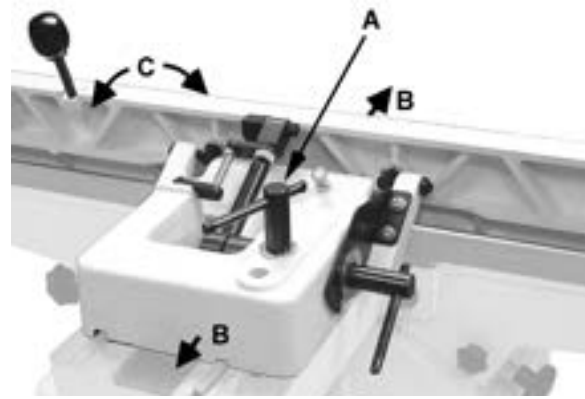

Figure 8-1
The fence can be moved forward or backward across the width of the table (B, Fig. 8-1). It also tilts up to 45 degrees forward and has a positive stop at 90 degrees.
1. Loosen the *locking handle* (A, Fig. 8-1).
2. Push the entire fence assembly (B, Fig. 8-1) to the desired position, and tighten the locking handle.